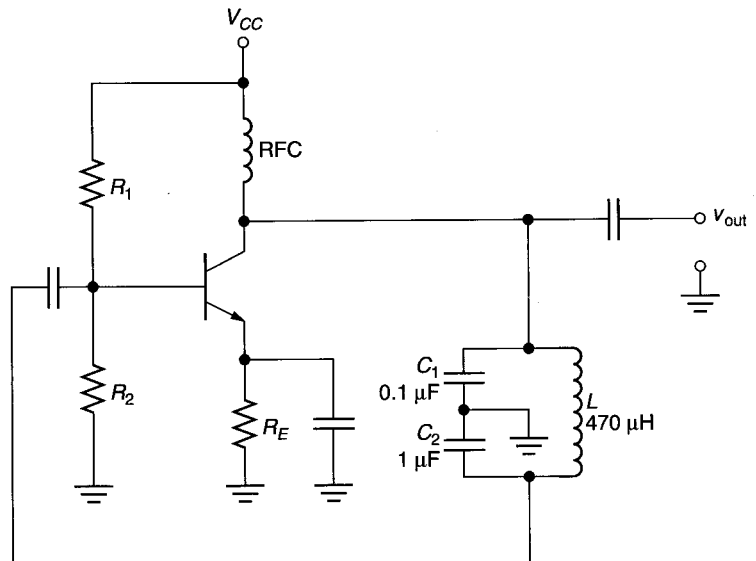

FIGURE 18.26
3. Calculate the operating frequency for the circuit shown in Figure 18.26.
5. A circuit like the one shown in Figure 18.26 has values of  $C_1 = 10 \text{ nF}$ ,  $C_2 = 1 \text{ }\mu\text{F}$ , and  $L_1 = 3.3 \text{ mH}$ . Calculate the operating frequency, the value of  $\alpha_v$ , and the value of  $A_v$  for the circuit.
6. A circuit like the one shown in Figure 18.26 has values of  $C_1 = 1 \text{ }\mu\text{F}$ ,  $C_2 = 10 \text{ }\mu\text{F}$ , and  $L_1 = 3.3 \text{ mH}$ . Calculate the operating frequency, the value of  $\alpha_v$ , and the value of  $A_v$  for the circuit.
7. A circuit like the one shown in Figure 18.26 has values of  $C_1 = 0.22 \text{ }\mu\text{F}$ ,  $C_2 = 3.3 \text{ }\mu\text{F}$ , and  $L_1 = 330 \text{ }\mu\text{H}$ . Calculate the operating frequency, the value of  $\alpha_v$ , and the value of  $A_v$  for the circuit.